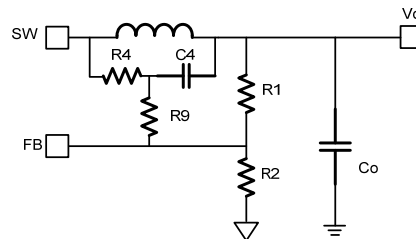

Figure 12: Simplified Circuit with External Ramp
C4 acts as a feed-forward capacitor to improve the transient and can be set in the range of 0 - 1000pF. A larger value for C4 leads to better transient, but it is more noise sensitive. Reserve room for a noise filter resistor (R9) (see Figure 12).
Besides the R1 and R2 divider, the output voltage is influenced by R4 (see Figure 12). R2 should be chosen reasonably. A small value for R2 leads to considerable quiescent current loss, but a value for R2 that is too large makes FB noise sensitive. It is recommended to choose a value within 5 - 50kΩ for R2. Use a comparatively larger value for R2 when VOUT is low; use a smaller value for R2 when VOUT is high. The value of R1 then is determined with Equation (4):